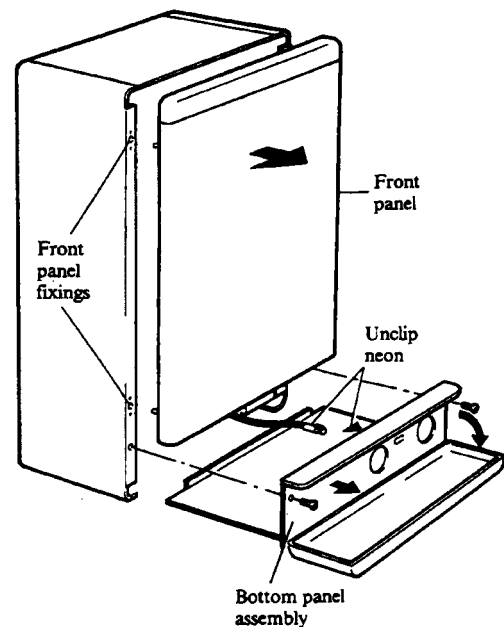

Fig. 31
Refer to Fig. 31.
2. Carefully slide the bottom panel assembly into position (the bottom panel goes above the returns on the case side panels), clip the neon, see Fig. 31, into its holder on the back of the control panel as the bottom panel is slid into position. Secure the bottom panel to the side panels using the four screws previously removed. With the control panel cover open, secure the control panel to the side panels with the two countersunk hd. screws previously removed.